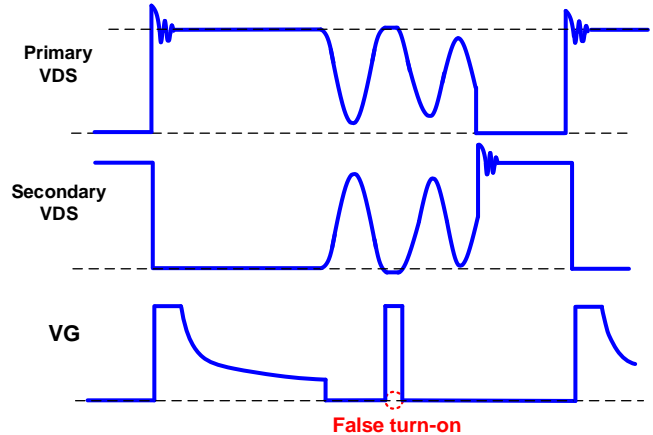

Figure 4: SR Waveform with Potentially False Turn-On during Demagnetizing Ringing
As the secondary current starts to change polarity and turn off (t_1 in Figure 4), the MOSFET package inductance (L_s) causes an instantaneous voltage on the sensed V_{ds} , as shown in Equation (1) and Equation (2):
An example of a ringing-induced issue is shown in Figure 4. As the secondary current falls to zero, the primary switch V_{ds} has resonance between the transformer main inductance and MOSFET C_{ds} ², which is reflected to the secondary side. Normally, the valley of this resonance should not touch the ground level, but sometimes the resonance valley may drop low enough to reach the SR turn-on threshold. This can be caused by factors such as the reverse recovery of the diode in the primary-side RCD snubber.
As the slew rate of this V_{ds} resonance is always much lower than the real turn-off slew rate (thanks to large main inductance), MPS MP6908 uses a unique slew rate programming pin to help decide when is the real turn off, and when is the normal V_{ds} resonance (see Figure 4).